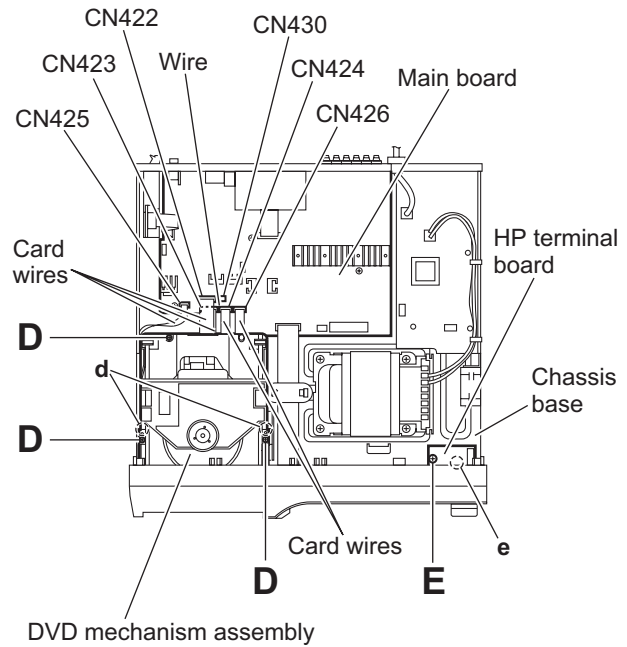

Fig.8
- (3) From the top side of the main body, disconnect the card wires from the connectors (CN422 to CN426) on the main board. (See Fig.8.)
- (4) Disconnect the wire from the connector CN430 on the main board. (See Fig.8.)
- (5) Remove the three screws **D** attaching the DVD mechanism assembly on the chassis base. (See Fig.8.)
When attaching the DVD mechanism assembly, align the holes of the chassis base to the projections **d** of the DVD mechanism assembly. (See Fig.8.)
3.1.4 Removing the HP terminal board (See Fig.8)